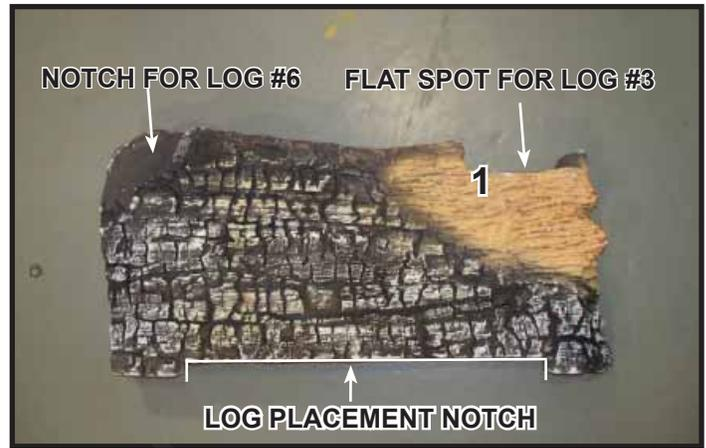

Figure 2.
**CAUTION:** Logs are fragile, handle with care. **Log #1 (2280-701 for TRUE-36, 2281-701 FOR TRUE-42):** Locate log placement notch on the bottom of log #1. See Figure 2. Mate outer notches on the bottom of Log #1 with the left and right grate tines. Slide Log #1 toward the rear of appliance until back side of Log #1 contacts the log placement tabs. See Figures 1-3.